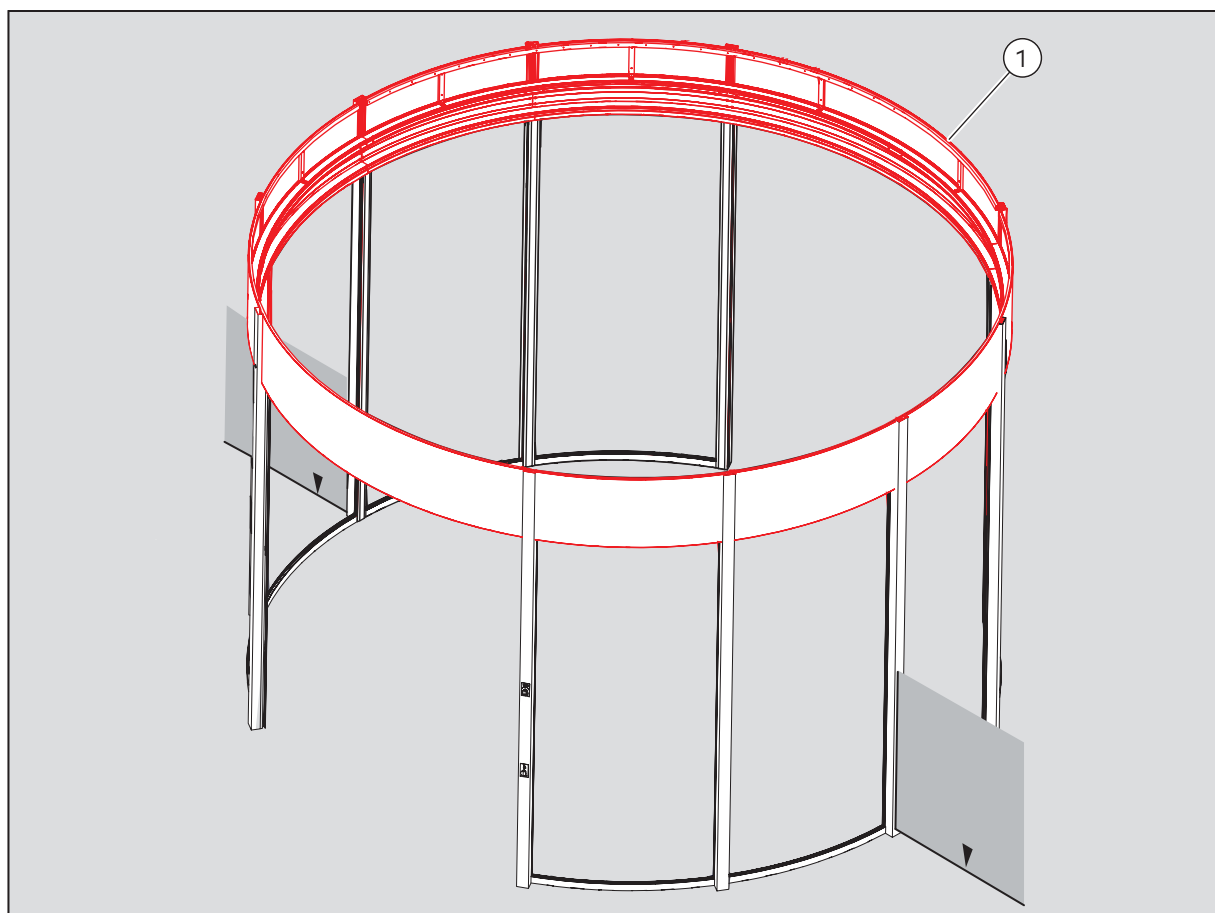

Fig. 36 Mounting the canopy height extension
1. The mounting of the canopy height extension (Fig. 36/1) is the same as described in "5.3 Mounting the frame" on page 31.